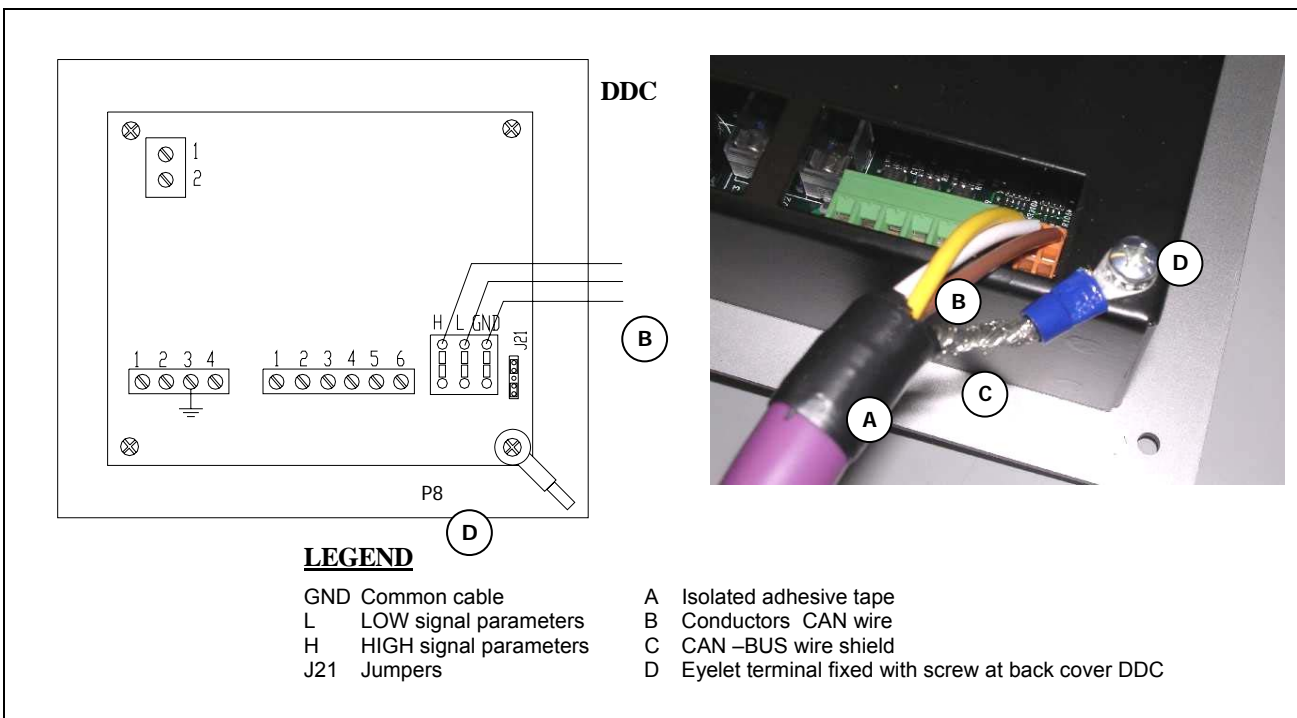
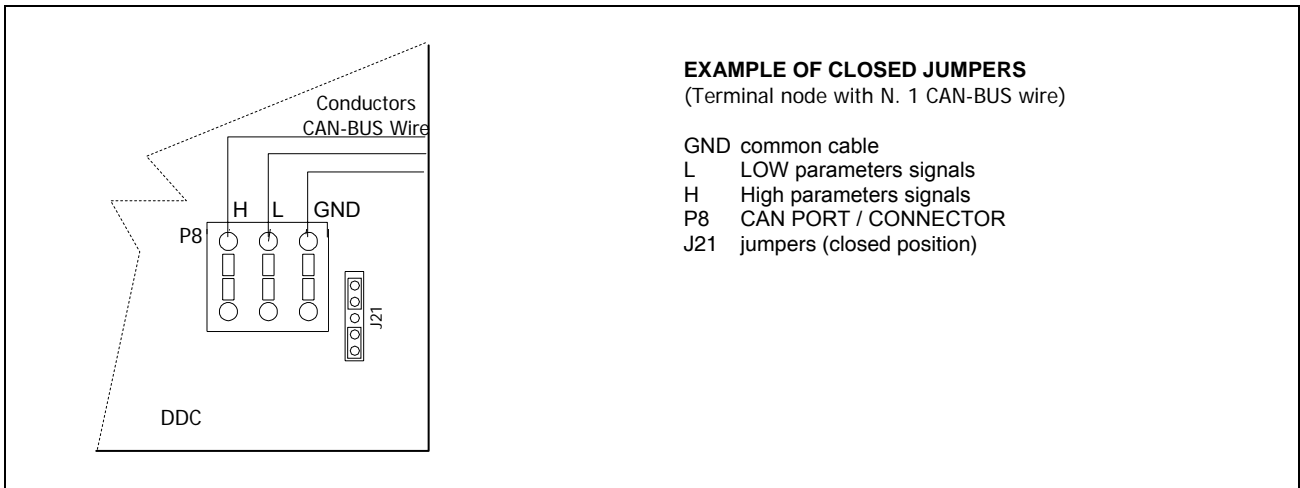
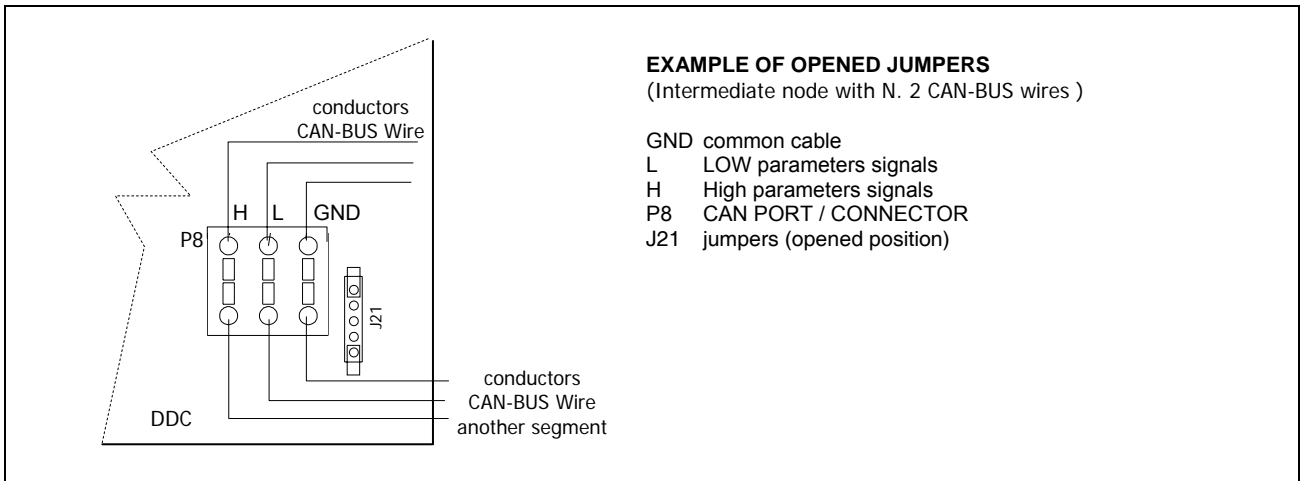

Figure 23 – EXAMPLE OF CAN-BUS WIRE CONNECTION TO DDC (only one entry CAN-BUS wire)
Figure 24 – DETAILED EXAMPLE OF ONE CAN-BUS WIRE CONNECTION TO DDC
Figure 25 – DETAILED EXAMPLE OF TWO CAN-BUS WIRES CONNECTION TO DDC
Like the orange connector of the electronic control board, the DDC connector, too, has two different situations of connection (see Figure 24, Figure 25 page 41). The Jumpers (J21) are closed in the factory as in 1st CASE.
2. Connect 3 conductors of CAN-BUS wire (Particular B, Figure 23) respecting the signal/color indications as in Table 9, page 37 with three inlets H, L, GND of the connector as in Figure 23; see also Figure 24, page 41.
- 3a Connect 3 internal conductors of the other segment of CAN-BUS wire (after cutting the sheath from terminals) with 3 inlets H, L, GND of the DDC connector as in Figure 25, page 41.
- 3c In the electronic control board of DDC, ad just the Jumpers (J21) placed beside the orange connector of CAN Port (P8) as in Figure 25, page 41.
- 5a Roll up the cut shield of the above mentioned CAN-BUS wire and connect it with an eyelet terminal of 0.16” (particular C&D, Figure 23).
- 5b (only for intermediate node) roll up the cut shield of the other CAN-BUS wire and connect it with eyelet terminal of 0.16” (particular C&D, Figure 23).
6. Unscrew the right bottom screw of the DDC back cover (particular D, Figure 23) and inset it to the eyelet terminal (s) and screw it down again.
- 7 Isolate – with suitable adhesive tape – the shield part of the wire (particular A, Figure 23).